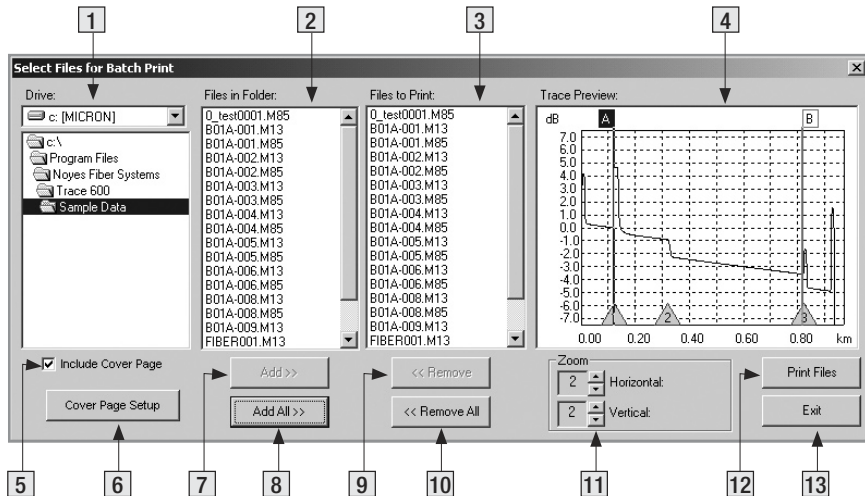

Figure 6-3: Batch Print Dialog Box.
The table below gives a summary of the [Batch Print] dialog box features (refer to Figure 6-3).
- 1 From the [File] menu, select the [Batch Print] command to access the [Batch Print] dialog box (refer to Figure 6-3).